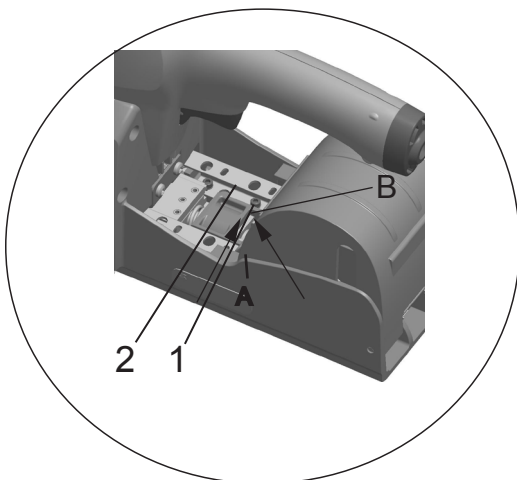

Fig. 5
The stapler is adjustable for 15 or 18 mm staples. The stapler setting for a different staple leg length is altered as follows. Start by adjusting the depth of stapling for deep clinching (=) as shown in Fig. 5.
- Adjust the strap guides (Fig. 5) inner position = 15 mm and outer = 18 mm leg length.